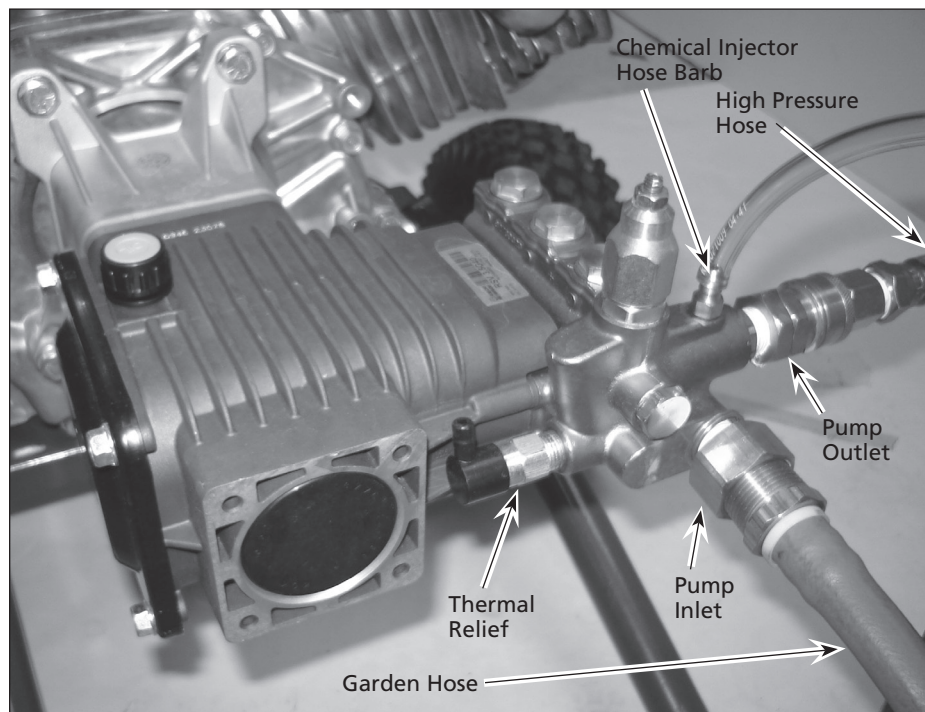

Figure 2 - Pump hook up
3. Secure garden hose (not included) to the inlet connection on pump (See Figure 2).
4. Connect the high pressure hose to the pump outlet (See Figure 2).